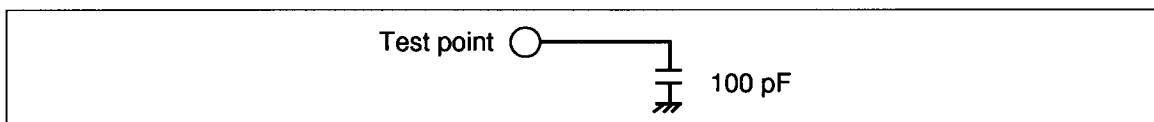

Figure 17 Load Circuit for Output Delay Time 1
2. For output delay time 1, connect the load circuit as shown in figure 17.